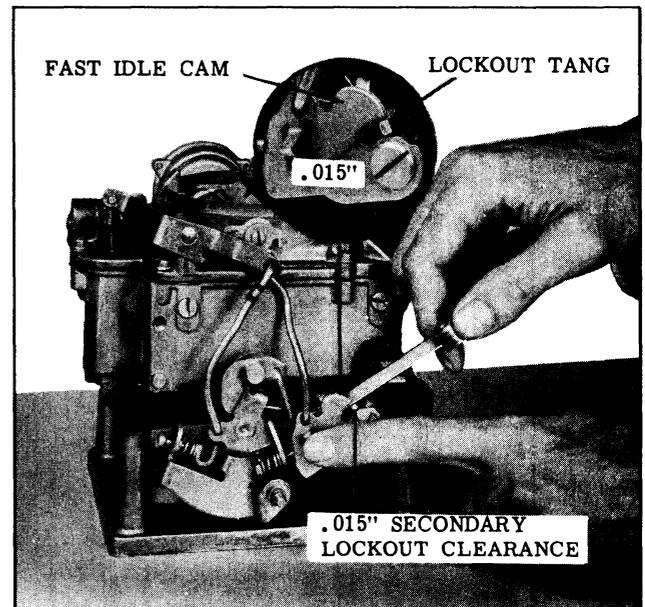

Fig. 8-110 Secondary Lockout Adjustment
1. Hold choke valve partially closed so secondary lock-out tang is in line with the top of slot in the fast idle cam. (See Fig. 8-110)
2. Measure the clearance between lock-out tang and top edge of slot in fast idle cam. (See Fig. 8-110) Using Tool BT-18, bend tang sideways until a clearance of .015" is obtained.